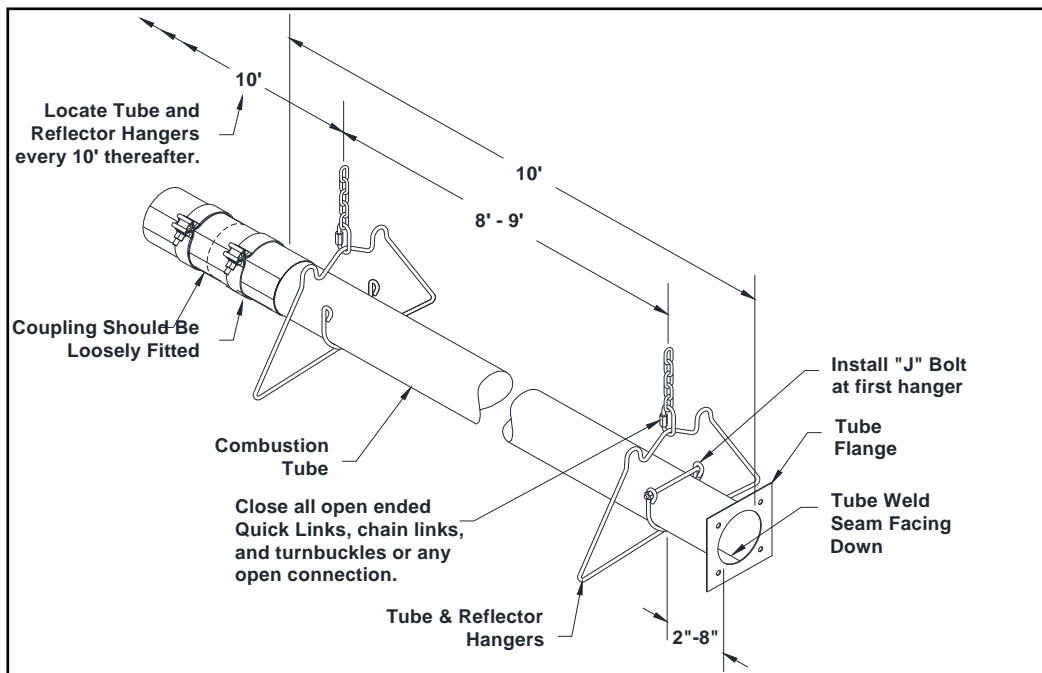

**Figure 5: Typical Hanging Points**
- Locate hanging chain at predetermined suspension points in the structure. **It is required that the first 2 hangers** be about 8' to 9' away. Thereafter, 10' apart on average is acceptable for the remainder of the heat exchanger. At no time should hangers be more than 12' apart, (see **Figure 5**).
- Install the tube and reflector support hanger on the chain with Quick Links or ‘S’ hooks refer to **Figure 4 & Figure 5**.